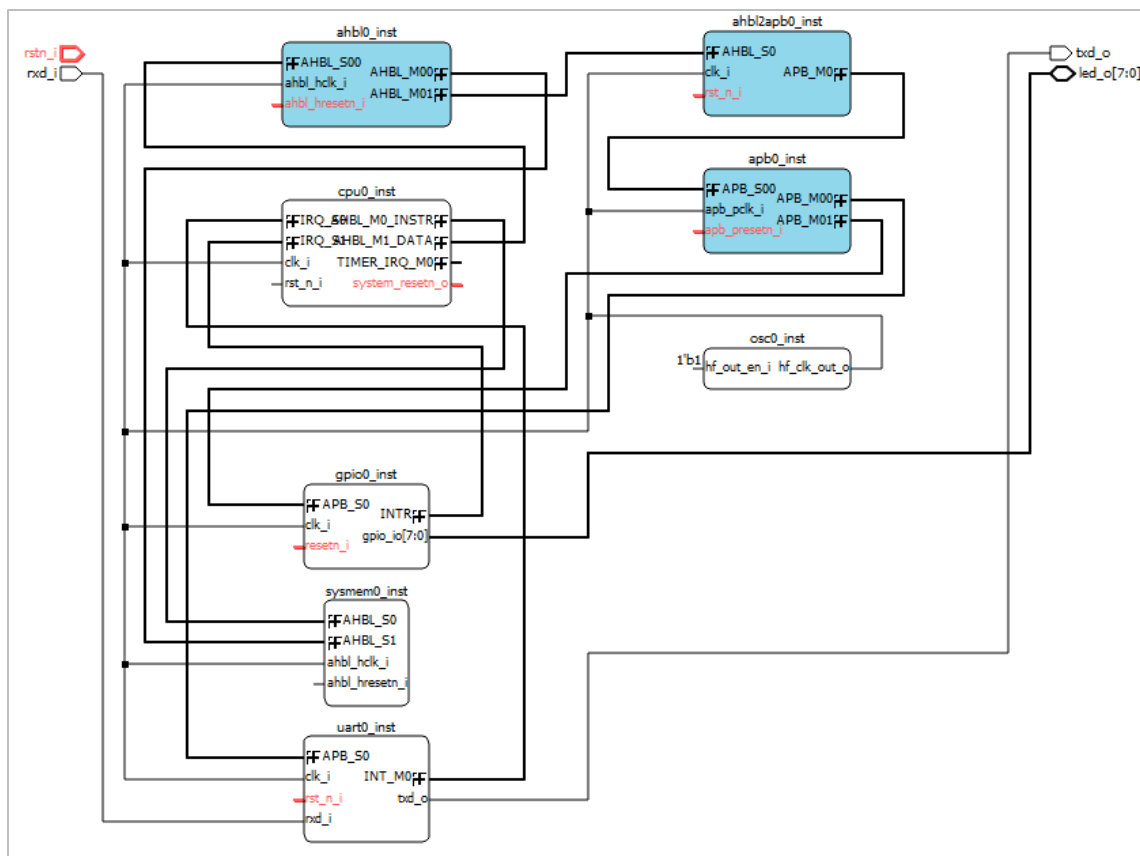

Figure 2.79. Select More than One Ports
3. You can connect multiple ports once. When more than one port is selected (Figure 2.79), click **connect**  from the right-click menu to implement it.